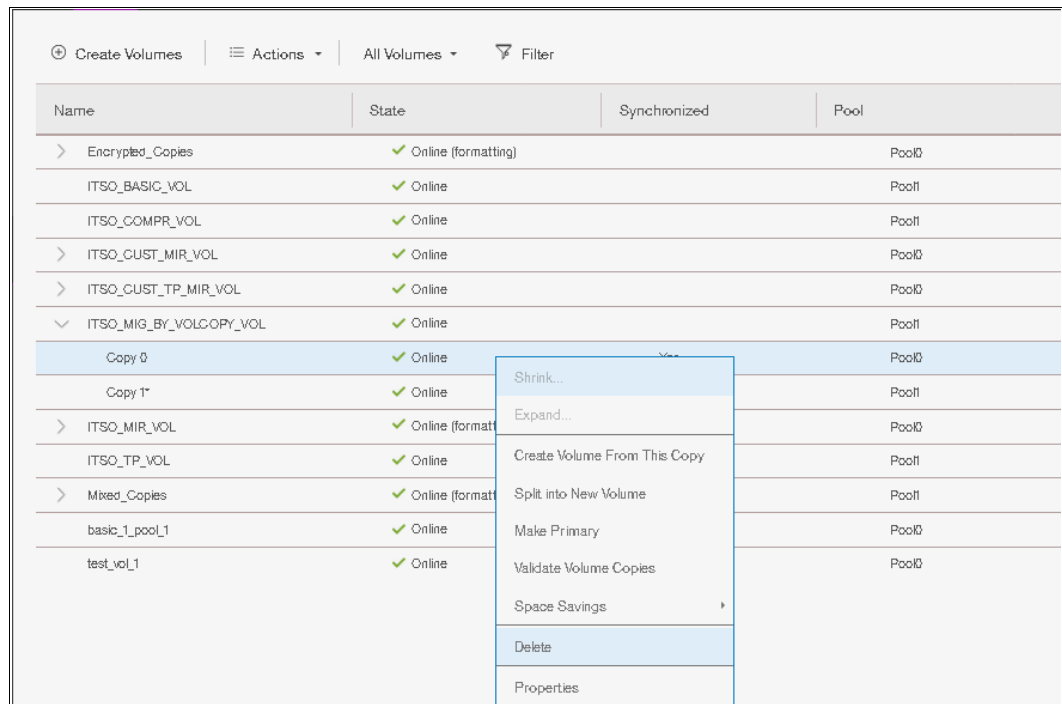

Figure 6-63 Deleting the older copy
6. Split or delete the old copy from the volume as shown in Figure 6-63.